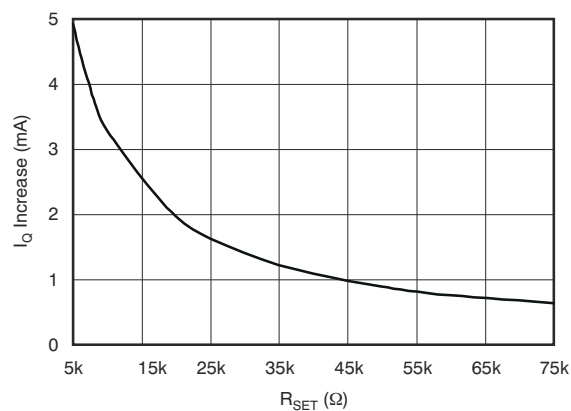

Figure 6-33. Quiescent Current Increase vs R_{SET}
(1) See Section 6.6.
(2) Under safe operating conditions; see also Section 8.1.4.
(3) Minimum current limit is 0.4A ; see also Section 7.3.1.
(4) Quiescent current increases when the current limit is increased (see also Figure 6-33).
(5) R_{SET} (current limit) ranges from $55\text{k}\Omega$ ($I_{OUT} = 400\text{mA}$) to $10\text{k}\Omega$ ($I_{OUT} = 1.6\text{A}$ typical); see also Section 7.3.1.
(6) Transient load transition time must be $\geq 200\text{ns}$.
(7) See also Section 7.3.2.
(8) When sourcing, the V_{DIG} supply must be able to supply the current.
(9) Characterized, but not production tested.
(10) Power-supply sequencing requirements must be observed. See Section 8.3 for more information.